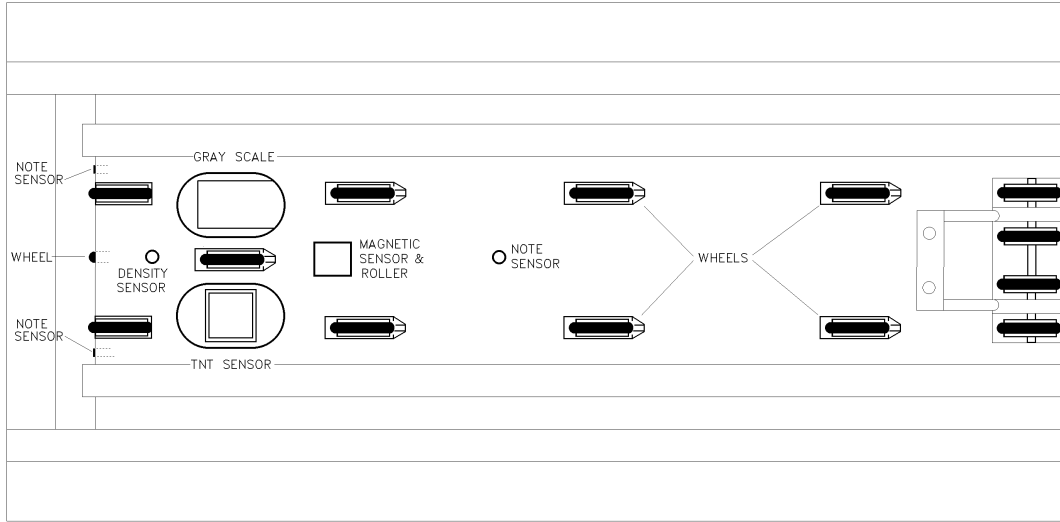

Figure 8-5
6. Open the acceptor by pressing the latch button located at the top of the acceptor, near the escutcheon. Swing the rear cover open to expose the transport wheels and sensors (Figure 8-5). Observe that a wheel and two sensors are located near the note entrance.